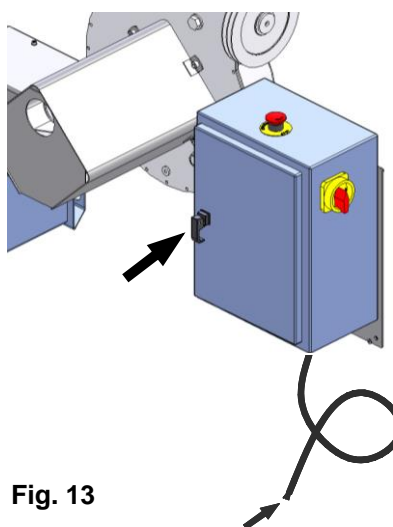

Fig. 13
- If the machine behaves abnormally, immediately switch off the main switch ( Fig. 13 ) and check the section "Malfunctions causes and possible remedies" in the instructions manual.